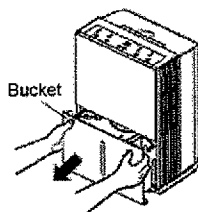

Fig. 1
1. Remove the bucket from the dehumidifier (Fig. 1)